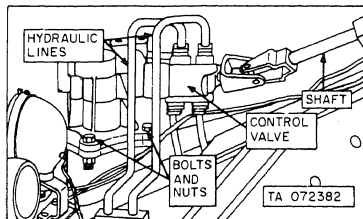

Figure 4-57.1 Steering gear assembly.
a. *Removal* (fig. 4-57.1).
(1) Position the front wheels straight ahead.
(2) Disconnect hydraulic lines at the steering control valve. Cap or plug openings.
(3) Remove the key, nut, and lockwasher connecting the shaft to the control valve.
(4) Remove the bolts and nuts, and remove the steering gear from the front of the grader.
(1) Install the steering gear in the reverse order of removal.
(2) Service the housing with lubricant. Refer to paragraph 3-18.
(3) Check the steering shaft for binding caused by misalignment. Adjust the alignment using set screws in the bracket (fig. 4-57.1).
(4) Adjust the steering gear backlash as instructed in c below.
(5) Adjust the control valve as instructed in d below.
Add figure 4-57.1.